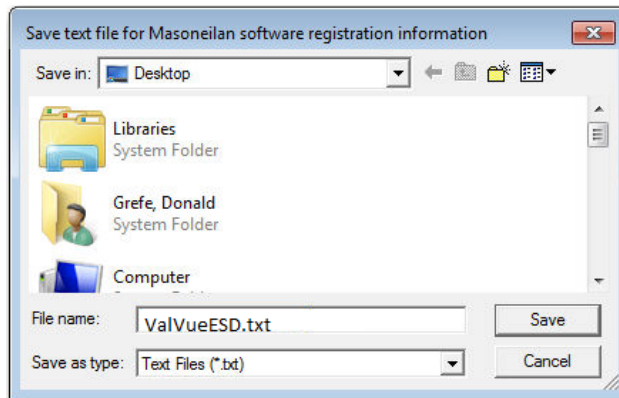

Figure 34 Save Registration Information
6. Click **Save to File** to save your registration file. A Windows browser appears (Figure 34).